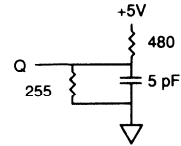

Fig. 2 OUTPUT LOAD EQUIVALENT
6. ^tHZCE, ^tHZWE and ^tHZOE are specified with C_L = 5pF as in Fig. 2. Transition is measured ± 500mV from steady state voltage.